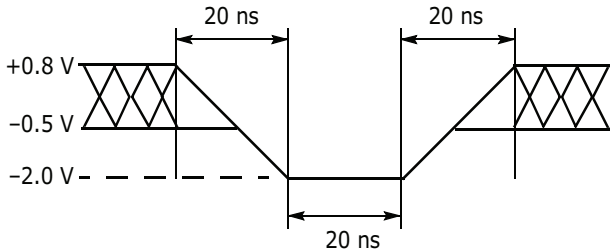
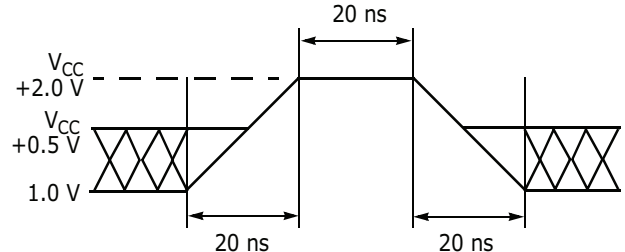

Figure 9.1. Maximum Negative Overshoot Waveform
Figure 9.2. Maximum Positive Overshoot Waveform
1. Minimum DC voltage on input or I/Os is -0.5 V. During voltage transitions, inputs or I/Os may undershoot V_{SS} to -2.0 V for periods of up to 20 ns. See Figure 9.1. Maximum DC voltage on input or I/Os is $V_{CC} + 0.5$ V. During voltage transitions outputs may overshoot to $V_{CC} + 2.0$ V for periods up to 20 ns. See Figure 9.2.
2. Minimum DC input voltage on pin ACC is -0.5V. During voltage transitions, ACC may overshoot V_{SS} to -2.0 V for periods of up to 20 ns. See Figure 9.1. Maximum DC voltage on pin ACC is +9.5 V, which may overshoot to 10.5 V for periods up to 20 ns.